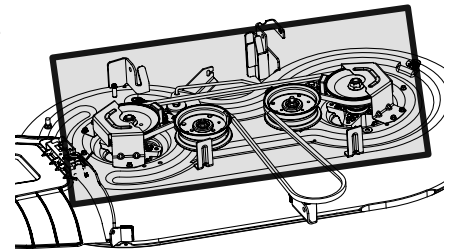

Figure 22
- Clean the top of the tractor deck, under the spindle covers and belt area. See Figure 22.